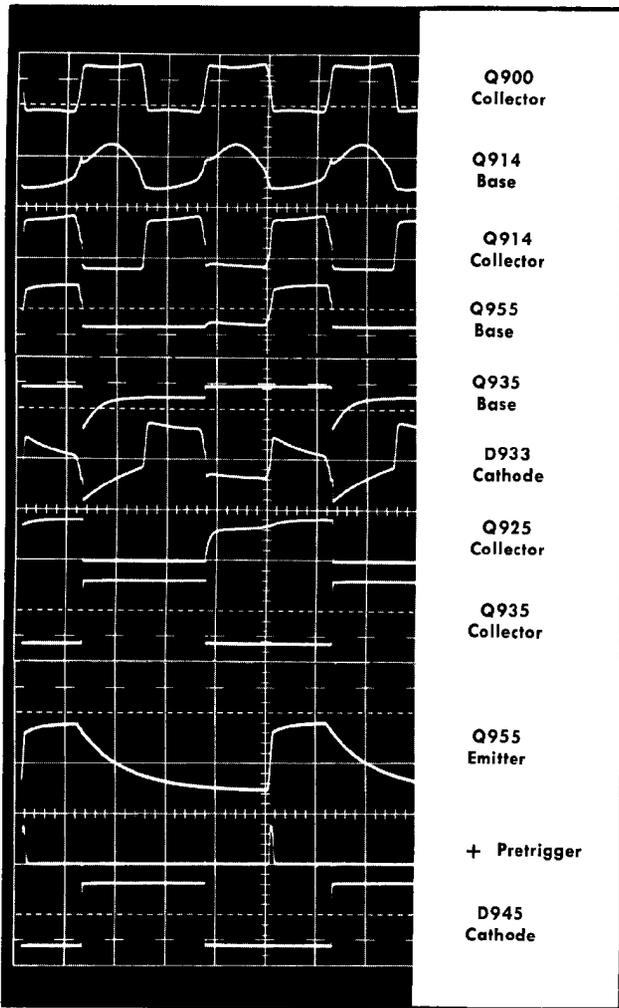

Fig. 3-3. Amplitude Calibrator time diagram. Operation at 20 kc (partial graticule shown).
**÷ 2 Multivibrator.** Q925 and Q935 form a triggerable bistable multivibrator that divides the astable output frequency by two. It drives the output voltage divider and controls the +Pre Trigger emitter-follower Q955. The time relationships of several points throughout the whole Amplitude Calibrator are shown in Figs. 3-3 and 3-4. Each figure is made up of three multiple-exposure photographs made by externally triggering the test oscilloscope to guarantee time coincidence of each waveform; voltage amplitudes are uncalibrated.